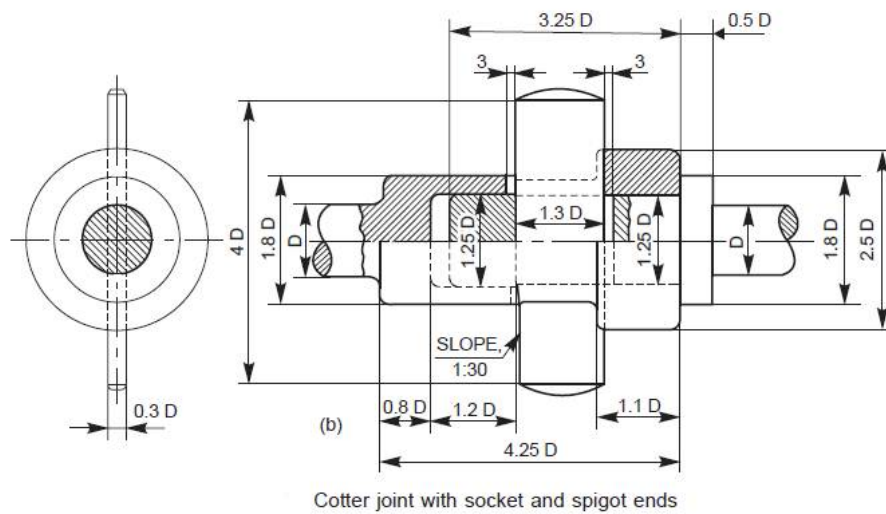

FIG 4
2. Prepare a shop floor drawing for the production of **Socket and Spigot Joint** is shown in **fig: 4** , incorporating the following information with item list.